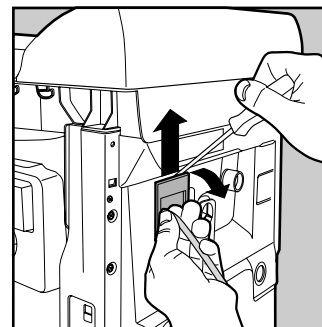

Fig. 4
- 4. Unscrew the 2 outer filter fastening screws and, with the help of a screwdriver (see fig. 4), release it from the back panel by pulling upwards.**